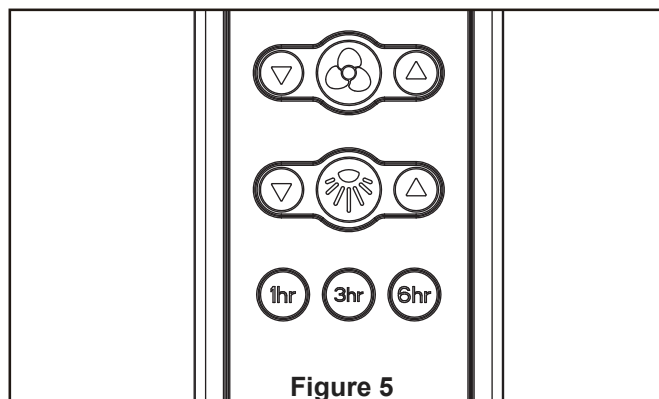

Figure 5
5. To set the code on receiver unit, slide dip switches to the same positions as set on the remote. (Figure 5)
Remove the LED assembly from the switch housing assembly by remove three screws and unplug the 2 single pin connectors. (Figure 5)
5. Remote functions: (Figure 5)